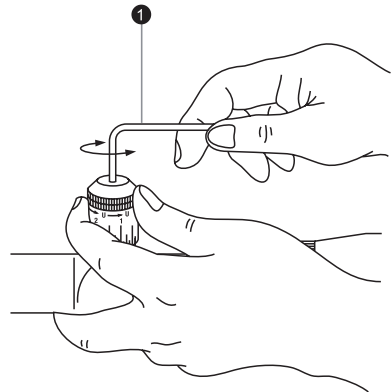

Fig. 3-5
With the turret held with your fingers to avoid shifting of the aligned scale ring, turn the screw in the top of the turret counter-clockwise with the supplied hex key (1) until the screw comes out. Then remove the turret (Fig. 3-5).